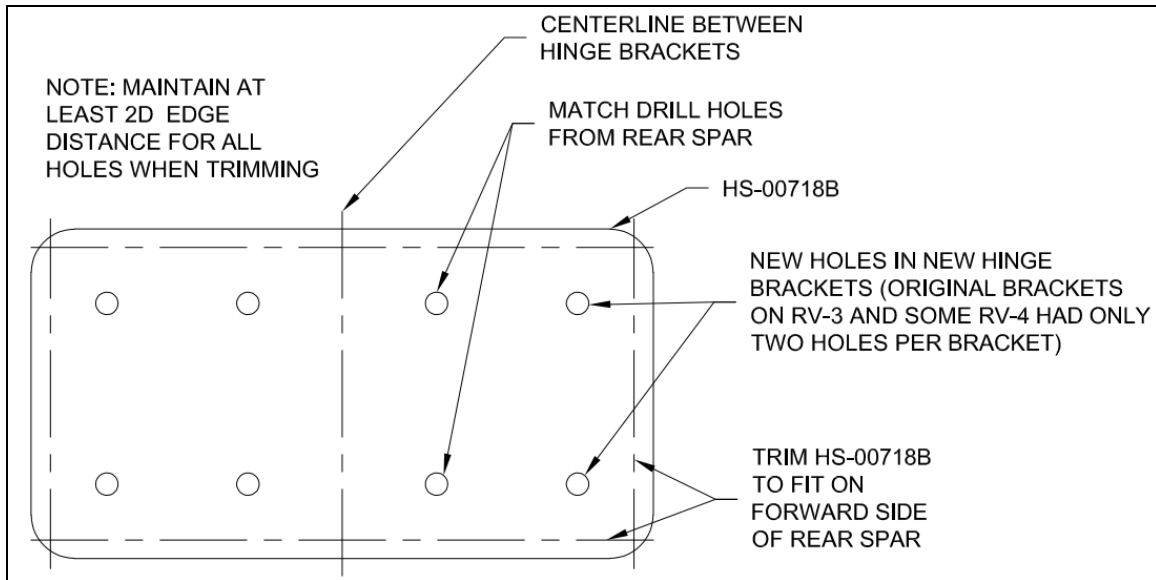

FIGURE 9: EXAMPLE HS-00718B REPAIR DOUBLER
Step 7 (RV-3 – If cracks are present): Fabricate a repair doubler from .063 2024-T3 (or trim a HS-00718B Repair Doubler) to fit the forward side of the rear spar captures all holes from the hinge brackets. See Figure 9 for an example.
Step 19 (RV-4 – If cracks are present): Fabricate a repair doubler from .063 2024-T3 or trim a HS-00718B Repair Doubler to fit the forward side of the rear spar. See Figure 9 for an example.